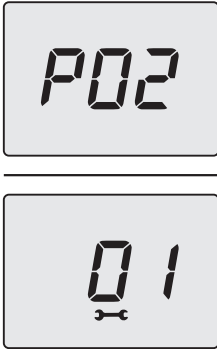

Figure 8.6
- The value of parameter 02 can be changed from **00=G20** to **01=G31**, which is compatible with LPG, using the 12 or 14 keys (Figure 8.6).